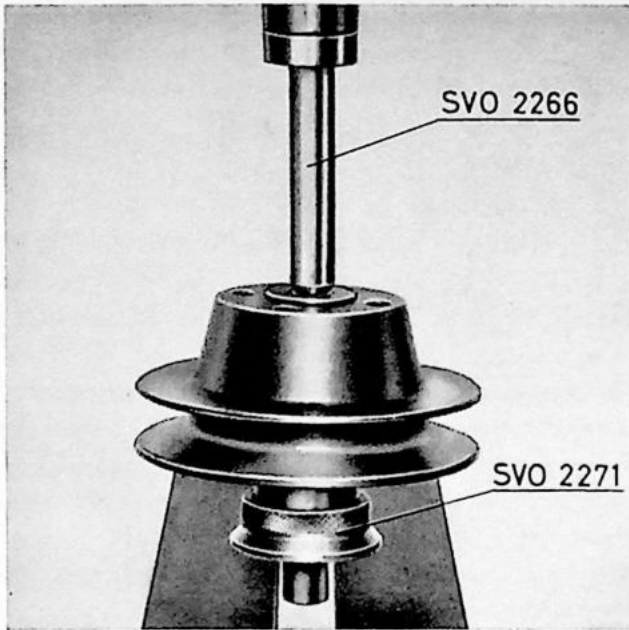

Fig. 105.
3. Remove oil slinger. Place ring SVO 2271 in the press, large diameter end downward. Use tool SVO 2266 to press shaft through the ring so that pulley, ball bearings, and spacer sleeve come loose (Fig. 105).
2. Place spacer sleeve on shaft, turn shaft round and press on rear bearing with ring SVO 2271 as support. The ball bearing is turned so as to show open side toward spacer. Place rings as shown in Fig. 105, and place drift tool against pulley face. Install grease nipple.